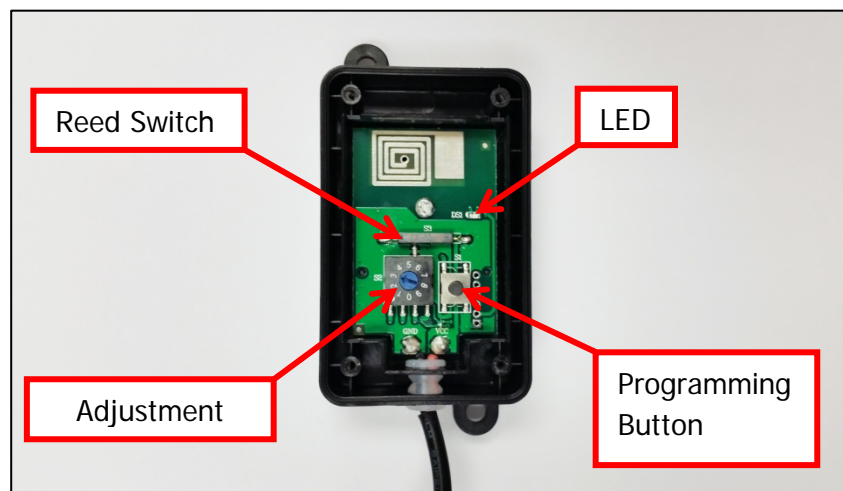

Fig.4
- a. Set the Motion sensor Adjustment Dial to level 5. (See page 9 Fig.4)
- e. Press the Stop button on the Motor controller (see fig.4). The green LED will illuminate continuously.
- f. Press the programming button on the GC779G Motion sensor (See Fig.4). Both the Purple LED on the Motion sensor and the green LED on the Motor controller will flash once and extinguish. This completes the programming sequence.
- a. Set the Adjustment Dial to level 5. (See page 9 Fig.4).